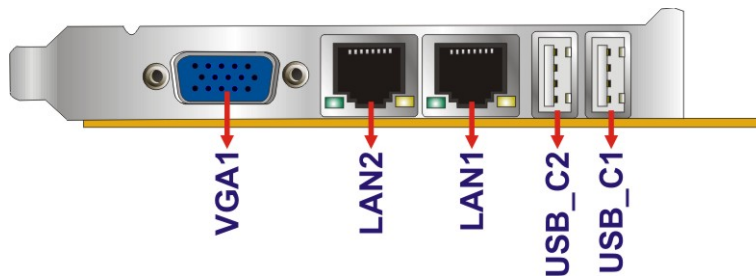

Figure 3-30: External Peripheral Interface Connector
- CN Location:** See **Figure 3-30**